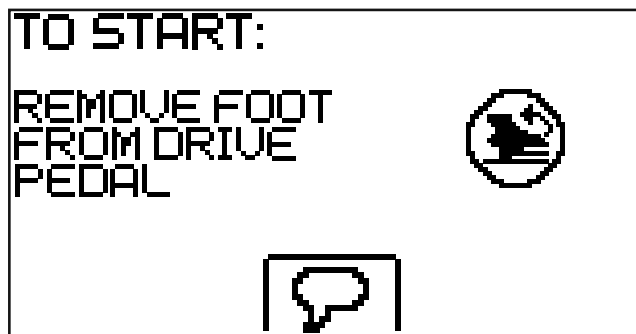

Figure 5-4
5. If your foot is on the forward/reverse drive pedal, remove it. See Figure 5-4.